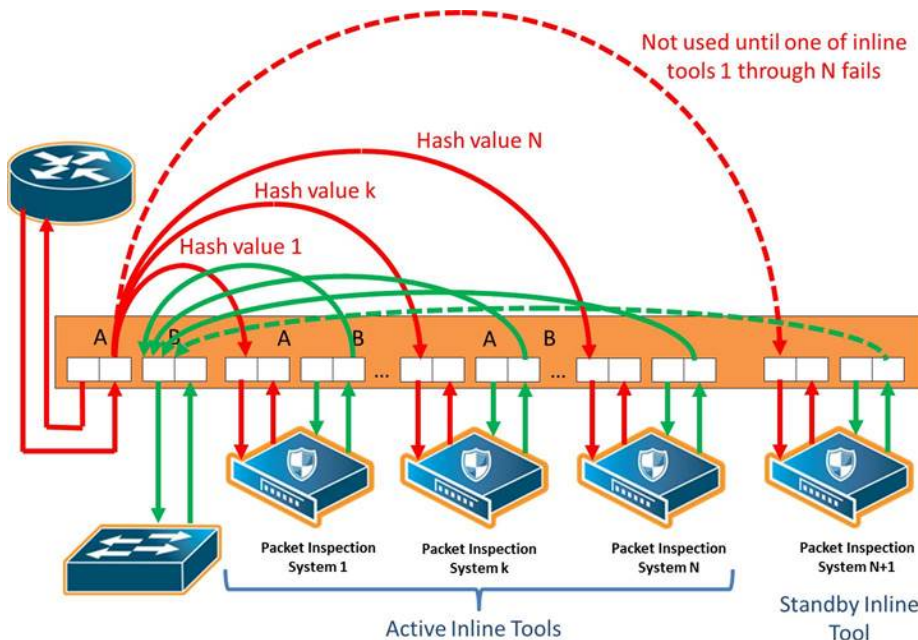

Figure 19 Inline Tool Group With Spare, Redundant N+1 Scenario
- N+1 redundancy—multiple inline tools that are considered active, with a standby inline tool that is only used if one of the active inline tools fails. Refer to Figure 19 Inline Tool Group With Spare, Redundant N+1 Scenario.
Refer to Figure 19 Inline Tool Group With Spare, Redundant N+1 Scenario for an inline tool group in an N+1 redundant scenario, in which N is greater than 1. In Figure 19 Inline Tool Group With Spare, Redundant N+1 Scenario, traffic is only shown from A-to-B.